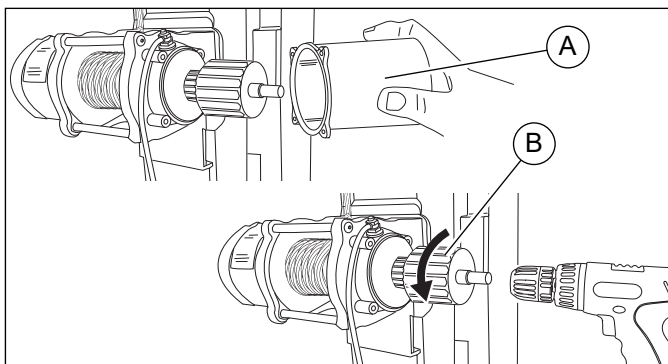

Figure 3-52. Manually Lowering the Mast
1. See **Figure 3-52**. Remove the motor cover (A).
2. Attach a drill chuck firmly to the exposed motor shaft (B).